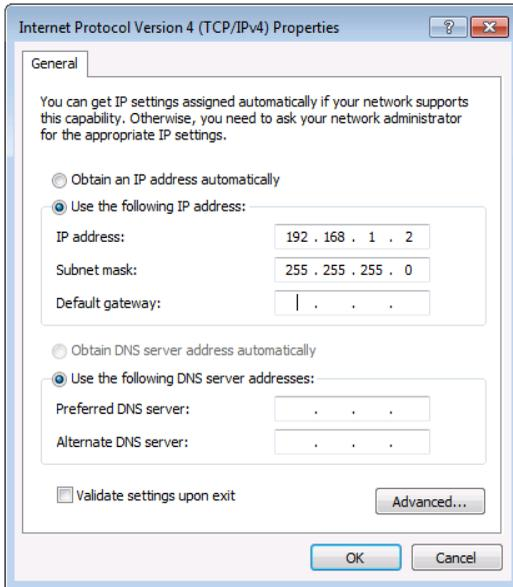

Figure 16: Internet Protocol Properties Window
6. Select **Use the following IP Address** for static IP addressing and fill in the details as shown in Figure 16.